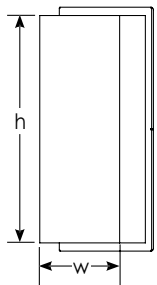

fig. 2
2. Measure the backside of the shower shelf (fig. 2).